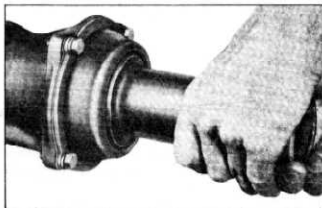

Fig. 19—Checking Ball Adjustment
4. With capscrews tightened to the proper torque place both hands on torque ball at the packing retainer (fig. 19). If torque ball can be moved and is a snug fit the torque ball is properly adjusted.